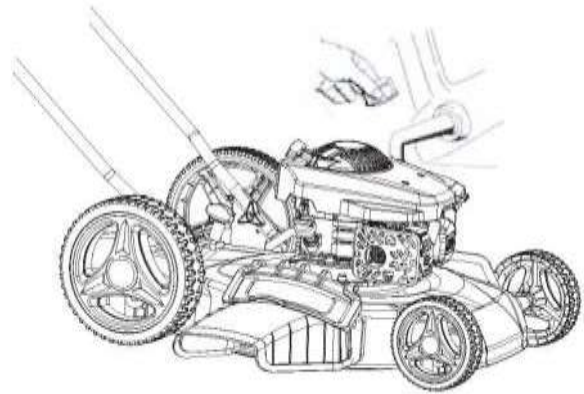

Figure 5
Fill the fuel tank with fresh unleaded regular gasoline from a filling station. (Figure 5)
**Important:** To reduce starting problems, add fuel stabilizer to the fuel, mixing it with gasoline less than 30 days old. (Figure 5)